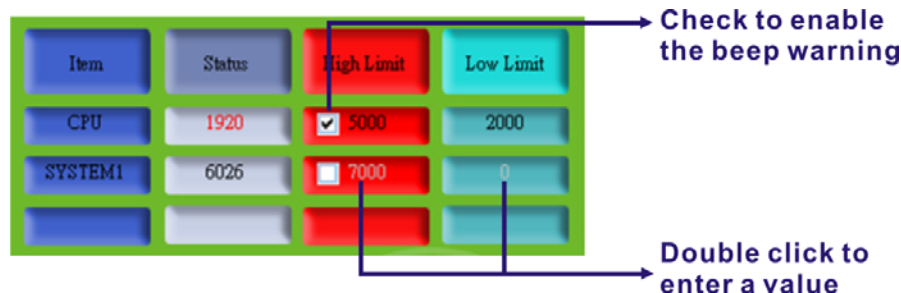

Figure 8-9: Fan Page – High Limit and Low Limit
Step 1: Double click a high limit value or a low limit value to enter the new value (**Figure 8-9**).
Step 2: Check the high or low limit value to have the system use the beep warning when the specified fan speed is greater or smaller than the high limit or low limit (Figure 8-9). (Make sure to enable beep/audio alarm on the Load/Save Page. Refer to **Section 8.8**)